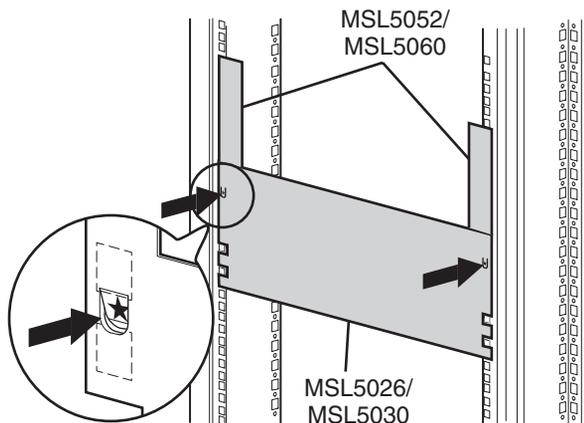

Figure 2–3: Library template (9000 rack enclosure shown)
2. Remove the template and then attach the rails using the supplied fasteners (see Figure 2–3). The front rail brackets are threaded to directly accept screws. The rear brackets are not threaded and require cage/clip nuts in the rack enclosure rear vertical rails.